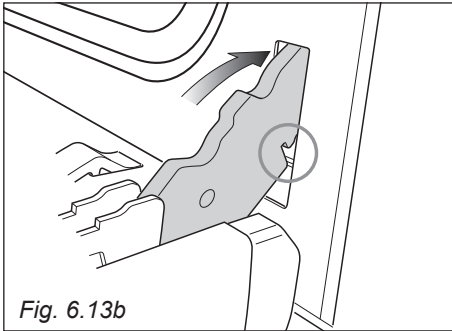

Fig. 6.13b
- Insert the hinge tongues into the slots, making sure that the groove drops into place as shown in the fig. 6.13b.